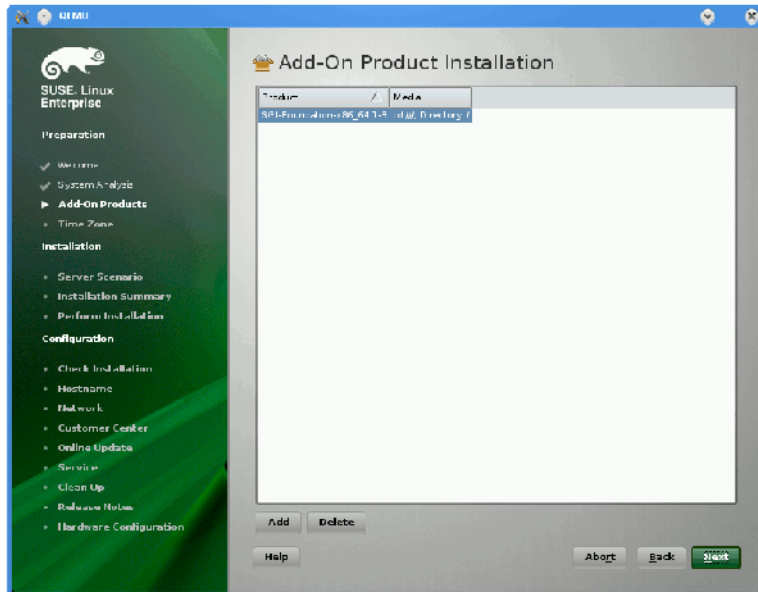

Figure 1-15 SLES11 SP1 Add-On Product Installation Screen Showing SGI Foundation
5. From the **Add-On Product Installation** screen, as shown in Figure 1-15 on page 26, click on **SGI-Foundation-x86_64 1-6 cd:///Directory** and click the **Add** button and then **Next** to proceed